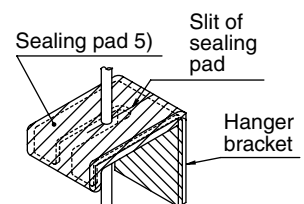

Fig. 6
- 5. Insulate the four hanger brackets with the sealing pad. (accessory 5) Insulate the hanger brackets so that the surface and edges of the hanger brackets cannot be seen. (Refer to Fig. 6)